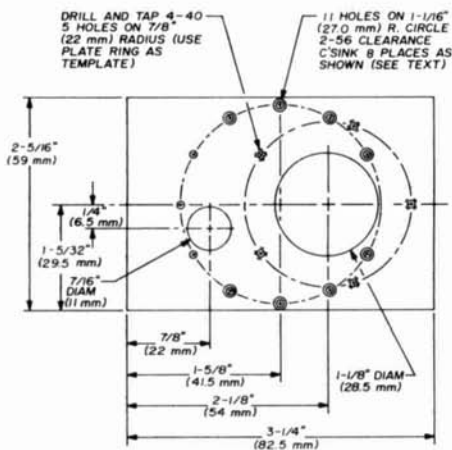
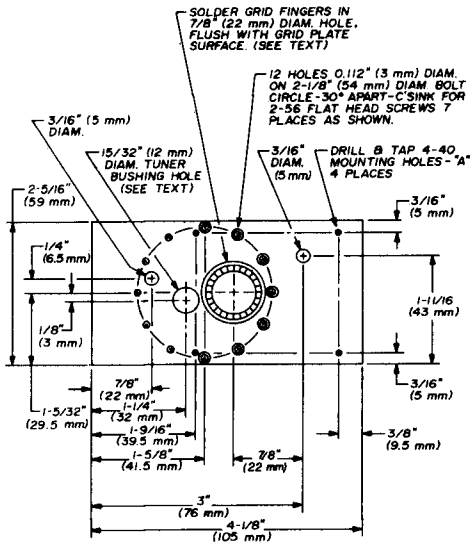
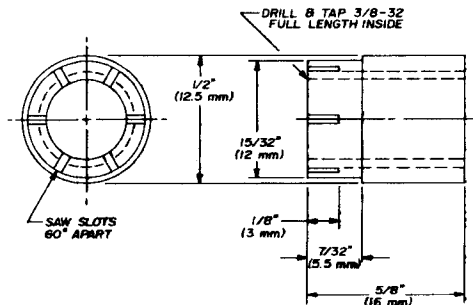
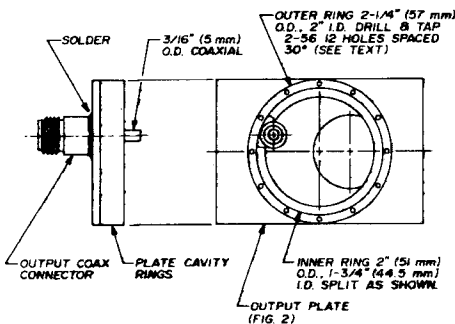

fig. 2. Dimensions for the output plate (out-side face). Material is 0.093" (2.5mm) brass.
fig. 3. Grid partition for the 2304 amplifier. Material is 0.093" (2.5mm) brass.
fig. 5. Tuner bushing (two required). Material is 1/2" (12.5mm) brass tube.
fig. 4. Plate circuit ring assembly (inside view on right).
fig. 1. Plate ring for the 2304-MHz power amplifier. This ring is mounted on the output plate (fig. 2) with a 10 mil (0.25 mm) Teflon insulating sheet. Material is 1/8" (3mm) brass.
1) sandwiched between the output plate (fig. 2) and the grid partition (fig. 3). The plate ring with its finger stock is mounted on the outside of the output plate with a 10 mil (0.010 inch or 0.25mm) Teflon insulating sheet. The 11 holes on the output plate are drilled 30° apart on a 1-1/16-inch (27mm) radius circle. Eight of these holes are countersunk for flat-head 2-56 screws so that the plate ring will mount flush. The output plate is used, in turn, as a template for locating the tapped holes in the plate cavity. Fig. 4 shows the plate cavity rings mounted on the out-
The 15/32-inch (12mm) tuner bushing hole in the grid partition (fig. 3) should be drilled undersize, and reamed out to provide a force fit with the bushing. The tuner bushing (fig. 5), extending 1/8 inch (3mm) into the plate
If brass tubing with 3/8-32 threads on the inside is not available, tap 13/32-inch (10.5mm) ID brass tubing to a depth of 5/16 inch (8mm) from each end as shown in fig. 5. Turn down the shoulder on one end by using your hand drill as a lathe. One of the tuning pistons can be used as a jig to hold the tuner bushing during this operation. The drill should be run at slow speed if a variable speed unit is available; otherwise, use a Variac to adjust the speed of the drill.